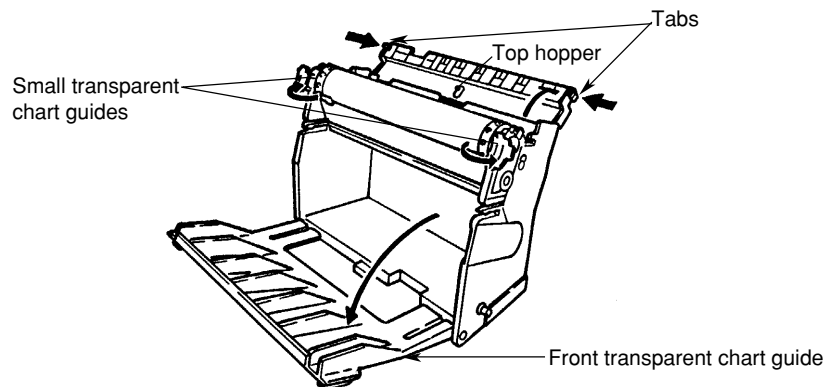

Figure 5.3
- 5 Press the tabs of the chart guide plate at the top rear of the chart compartment and swing the guide plate up (see figure 5.3).
- 6 At the front, pull/swing the front transparent chart guide down and swing the small transparent chart guides open (see figure 5.3).